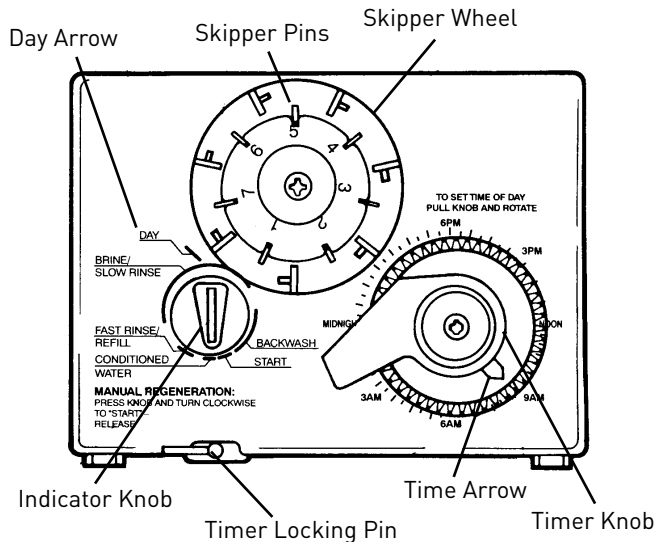
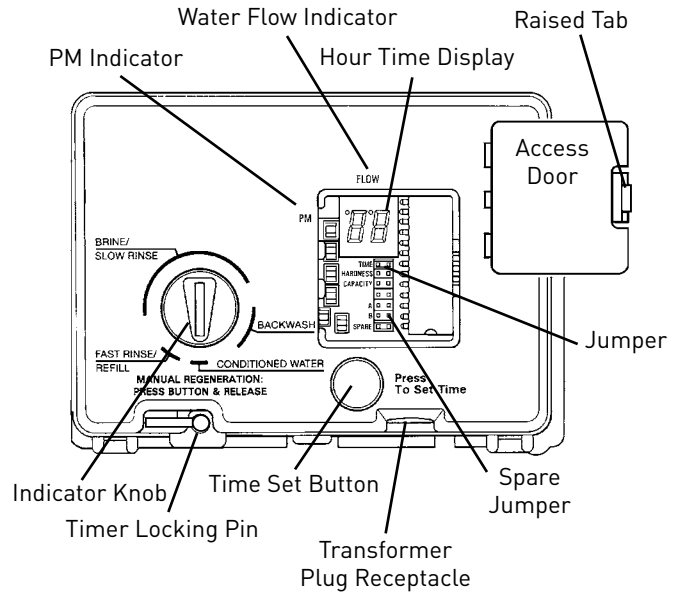

Figure 5
Figure 6
NOTE: The following steps will require turning the indicator knob (Figure 5 and Figure 6) to various positions. Manually rotate the camshaft COUNTERCLOCKWISE only until indicator knob points to desired position. See manual regeneration sections for each control's manual operation.
- Set days of regeneration on skipper wheel (Figure 5).
NOTE: The Timer Locking Pin should always be horizontal (Figure 5) during operation.
Open the access door by pushing the raised tab on the door toward the left while pulling the tab out (Figure 6).
NOTE: The Timer Locking Pin should always be horizontal (Figure 6) during operation.
When abnormally high water usage exhausts your water conditioner's capacity ahead of schedule, an extra regeneration can be achieved. Depress the indicator knob on the 440i (Figure 5) with a wide-blade screwdriver and turn **COUNTERCLOCKWISE** to **START** to initiate a regeneration. For the 460i, simply depress the indicator knob (Figure 6). It will take a few minutes for regeneration to start. A normal regeneration will take approximately two hours.
Electricity is used only to run the control and to rotate the camshaft. All other functions are operated by water pressure. Therefore, in the event of a power outage, all the regeneration positions may be dialed manually by depressing the indicator knob and turning **COUNTERCLOCKWISE** (Figure 5 and Figure 6). The following cycle times should be used for proper regeneration: